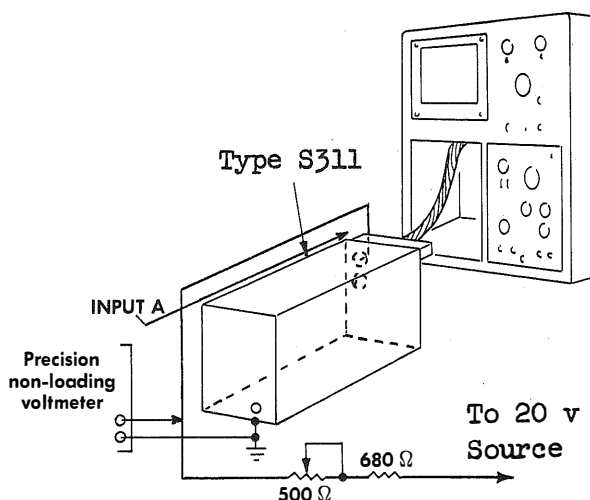

Fig. 6-2. Circuit used to set Type S-311 gain.
1. Assemble the system shown in Fig. 6-2. Adjust the 500-ohm variable resistor so exactly 0.5 volt appears at the Type S-311 channel A INPUT connector.
Leave the system of Fig. 6-2 connected to the Type S-311.